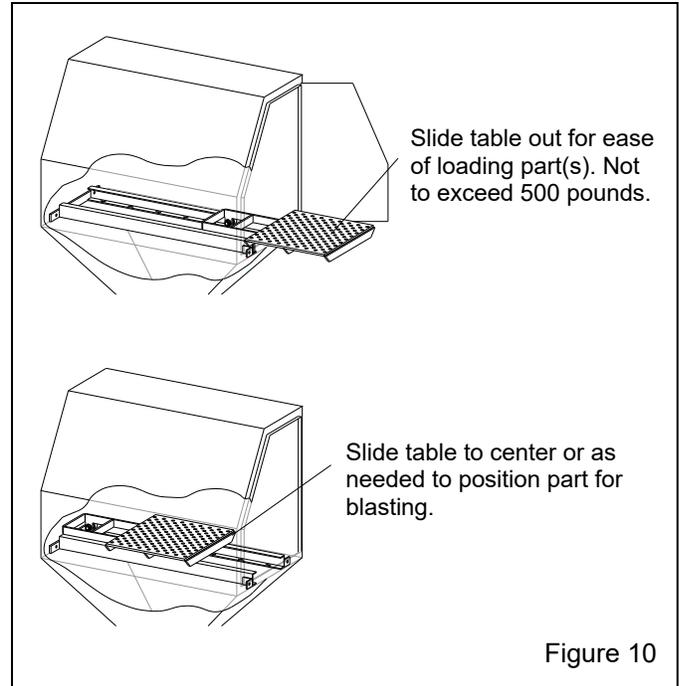

Figure 10
**3.5.1** Components of track and table assembly are shown in Figure 10. The assembly consists of: